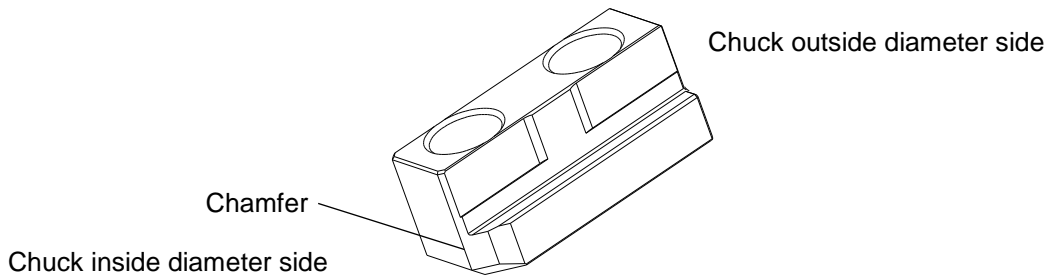

Figure 12-1 Tnut-Plus
A Tnut-Plus as shown in Figure 12-1 is provided for BR chucks as an option.
**Mount the Tnut-Plus with the chamfer side facing the chuck inside diameter side. (See Figure 12-1)**